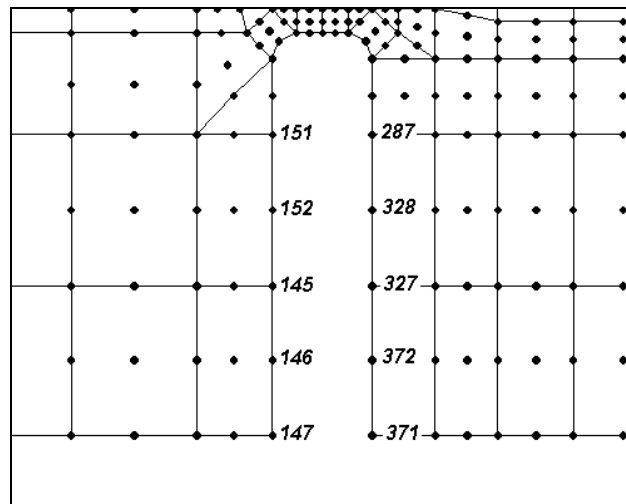

Figure 5 Area where weirs will be added.
weir will be defined along five node pairs across the abutment at the bottom middle of the mesh, as shown in Figure 5.
1. Zoom  in to the area shown in Figure 5.